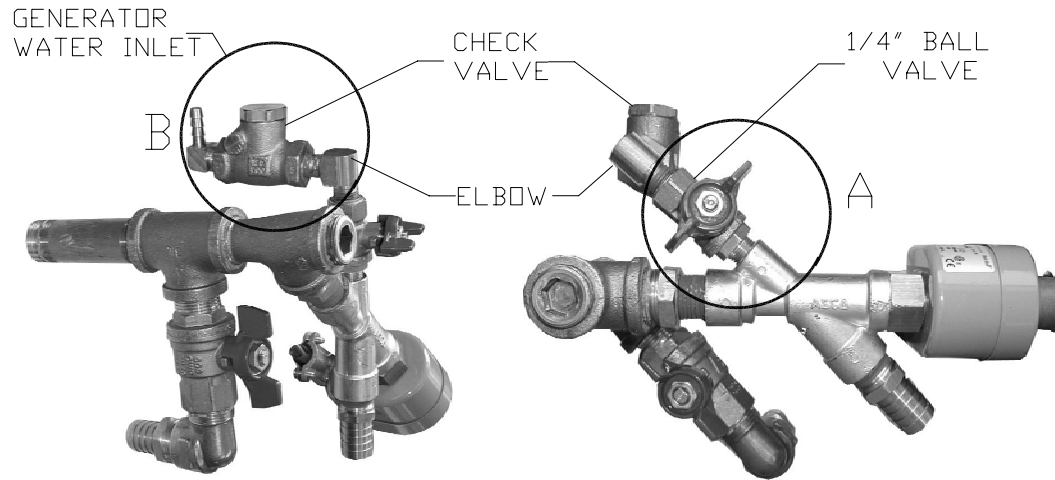

Figure 3
- 8) Remove the handle from the ball valve removed in step 7 and install the ball valve on the 1/4 port of the drain valve (circle A in Figure 3). Do not allow pipe sealant to clog the drain valve. Reinstall the valve handle.
- 9) Install the 1/4" elbow supplied with the kit on the ball valve installed in step 8 (circle A & B in Figure 3).
- 10) Install the generator water inlet (nipple, check valve, hose barbs fitting) removed in step 6 into the 1/4" elbow installed in step 9 (circle B in Figures 3). Important: The check valve must be installed in an upright position as shown in Figure 3 in order to operate properly!